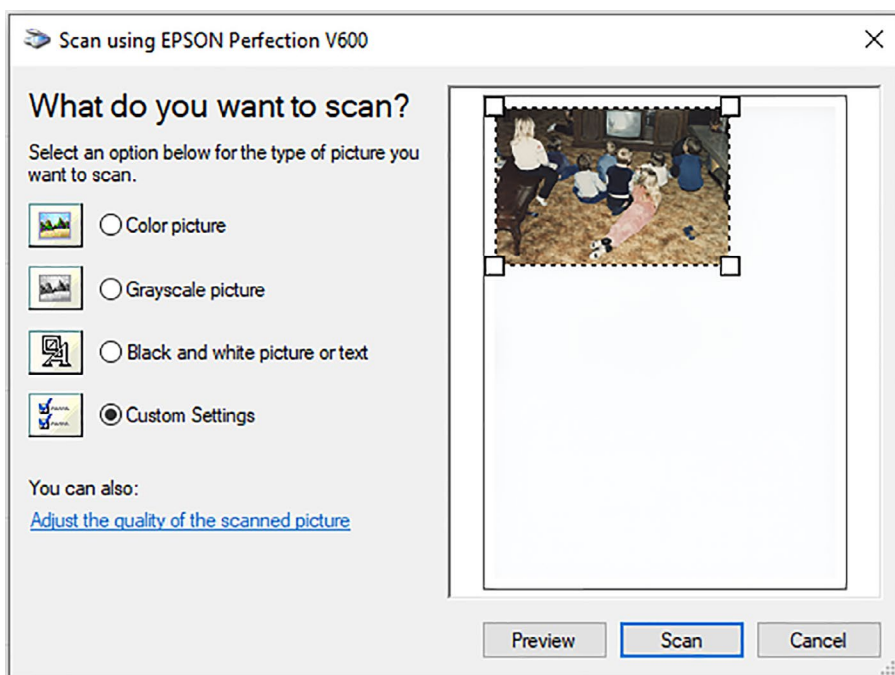
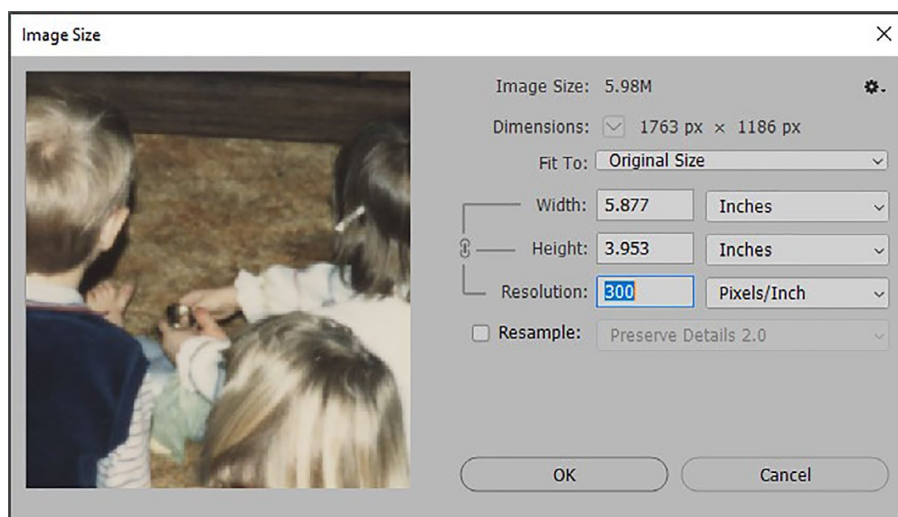

Figure 1-27. Preview of the print appears, and I can use the bounding box to crop how much of the sketch I want to scan
Figure 1-29. Checking the resolution of the document using the Image Size dialog box showing 300 Pixels/Inch resolution
In this case, the preview does not create a copy of the image yet; it is just stored in memory until you are ready to click Scan. If you notice that your image is a bit slanted or rotated, you can always open the lid, move the print a bit from the center to the left or right so it's up against an edge, close the lid, and click the Preview button again. Some scanners will recognize the area of how large your artwork is and then will use their bounding box handles to crop or marquee to fit around that area, so you don't have to scan the whole bed. You should have the option of being able to drag the handles to the area you want to scan. However, some scanners, via their dialog boxes, will allow you to scan more than one area on the page into separate files, if required, by letting you draw more than one bounding box and then scan all at the same time. Refer to Figure 1-27.
1. Once you have made your setting choices, click the Scan button (see Figure 1-27), and the file will be transferred and appear in Photoshop and be saved in the destination subfolder that you set up earlier. You can check that it is 300dpi under the Image ► Image Size dialog box, and it will show the resolution to be 300 (pixels/inch), which is the same as the dpi setting. Click Cancel to exit that dialog box as you are not making any size adjustments. Refer to Figure 1-29.